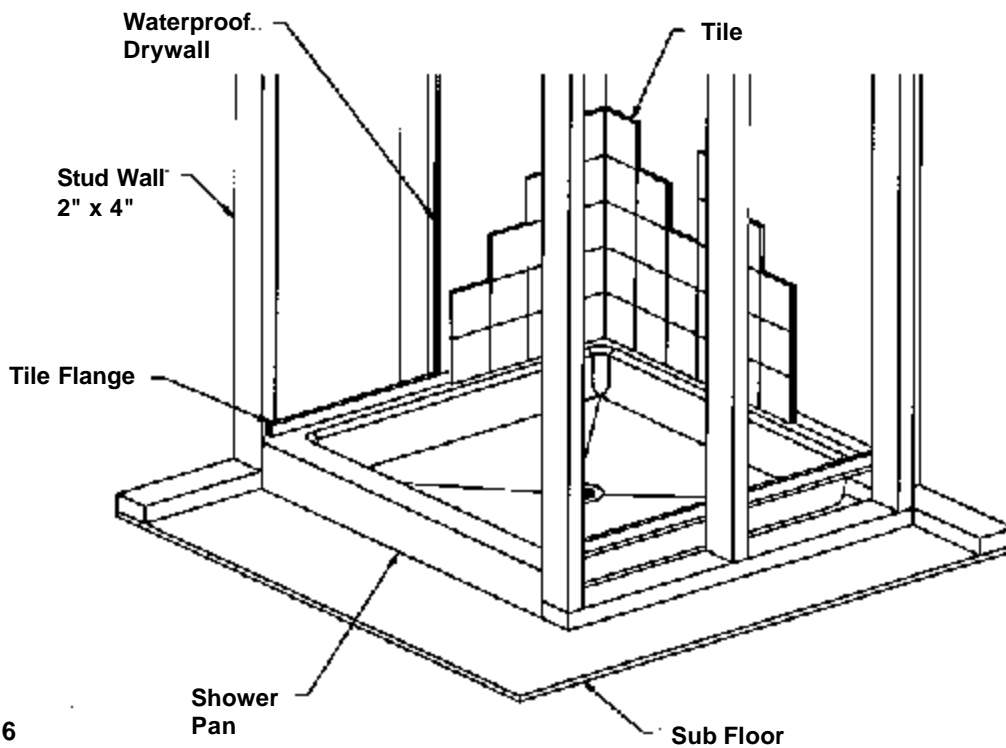

Figure 6
4. Finish installation as shown in Figure 6. Tape over strainer to prevent debris from entering the drain. Caulk seams as needed.